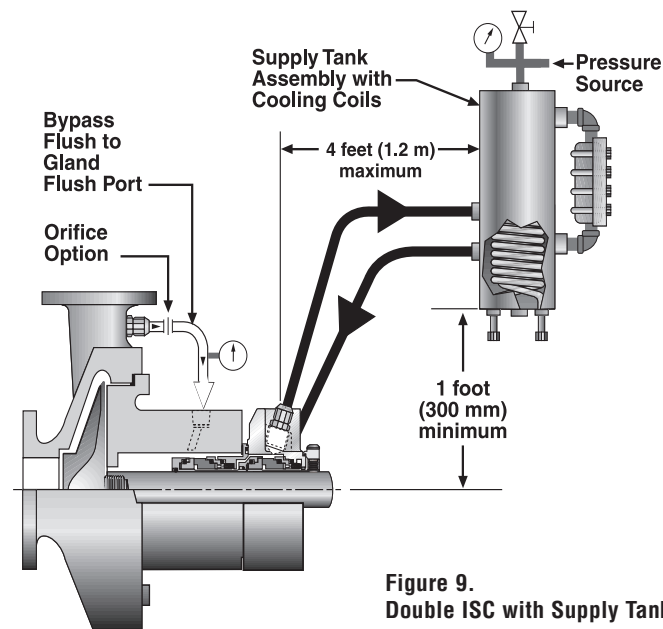

Figure 9.
8.2 For running a dual pressurized seal (double seal), supply a clean compatible barrier fluid to the inlet port at a pressure at least 25 psi (170 kPa) above the seal chamber pressure (see Figure 9). The pressure of the barrier fluid must not exceed the recommended maximum pressure. Flowserve can supply information on barrier fluid flow requirements based on seal size, product temperature, barrier fluid characteristics, and shaft speed.